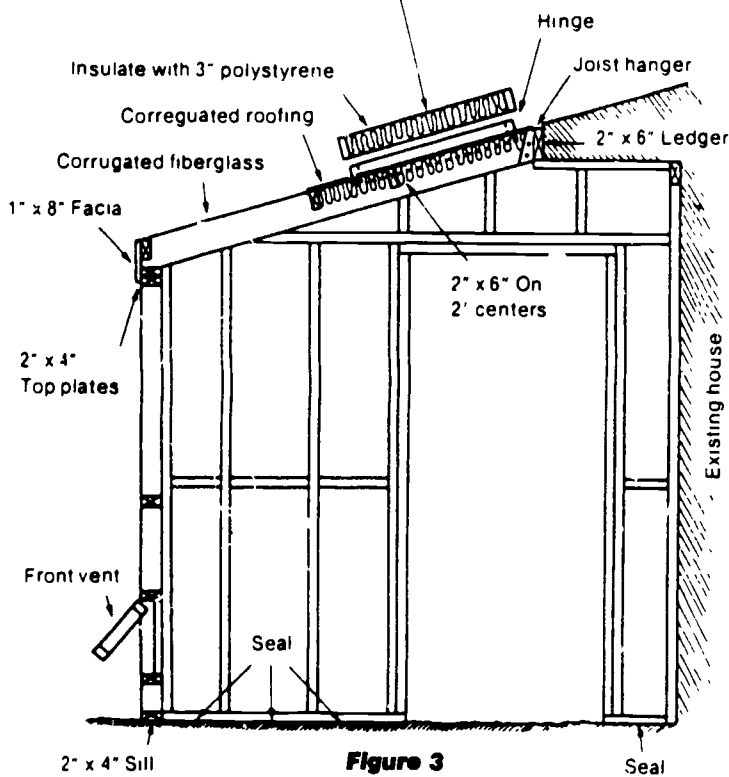

Figure 3
Figures 3, 4, 5, and 6 illustrate framing designs you might consider. Use these designs as guides. Select the best features of each, and then make a sketch of your own personal design to be sure you don't forget anything. Use cross-hatched graph paper and an architectural scale with a straightedge to draw where each board, door, window, etc., will be placed. Remember, a 2 x 4 is really 1½ inches x 3½ inches; a 2 x 6 is really 1½ inches x 5½ inches, and so on.
Step 12. Affix a 2 x 6 ledger on the house. You can nail through the existing siding into the house studs; use lead anchors and lag screws; or whatever means are appropriate for your house (see Figure 3).